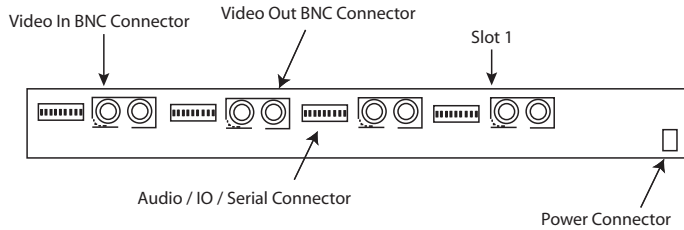

Figure 3 Rear view of 4-Channel Rack with Transmitter cards fitted
1. Connect a video source to the Video In BNC connector on the back plane (**Figure 3** on page 17).
3. Connect the power supply to the unit (see **Figure 3** on page 17).